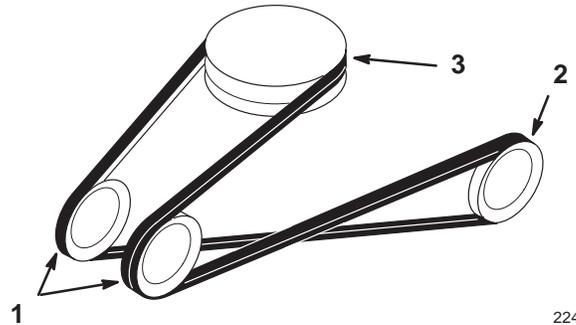

Figure 16
18. Route the belt around the snowthrower pulley, idler pulleys, and the upper groove of the electric clutch (Fig. 16).